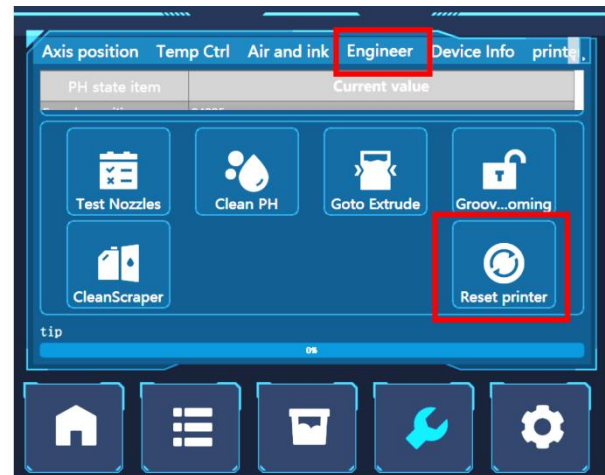

fig. 3-2 Reset Printer
2. Click **Reset Printer** in the **Engineer** option, see figure 3-2. Printer start the initialization routine.